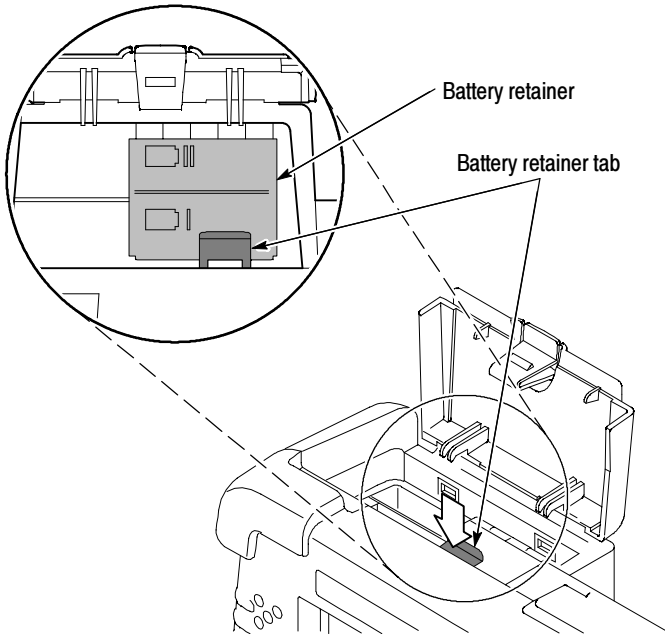

Figure 1-5: Battery retainer tab
3. Locate the battery retainer and battery retainer tab. (See Figure 1-5.)